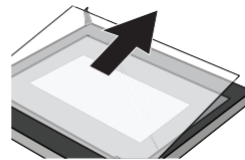

Figure 5
5.) Push the glass into the position indicated by the arrow in Figure 5. Gently pull the glass out of the socket.